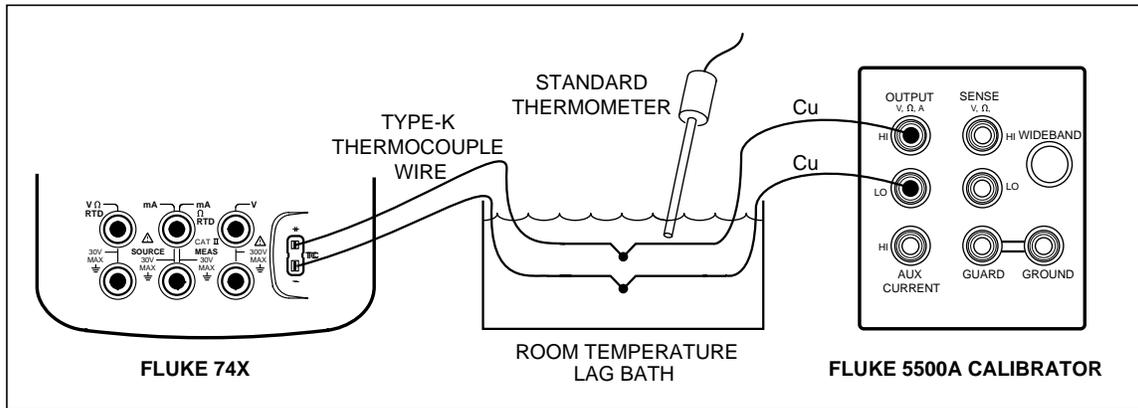

Figure 11. Temperature Measure (TC) Verification Connections
1. Use Type-K thermocouple wire and copper wire to connect the 5500A output to the UUT-TC jack as shown in Figure 11. The Type K-to-Copper junctions should be either welded or made with tight screw terminals and submersed in the lag bath (room temperature). Use the standard thermometer (0.1 °C accuracy) to measure the temperature of the lag bath.
1. Use Type-K thermocouple wire and copper wire to connect the HP3458A to the UUT -TC jack as shown in Figure 11 (the HP3458A is used in place of the 5500A). The type K-to-copper junctions should be either welded or made with tight screw terminals and submersed in the lag bath (room temperature). Use the standard thermometer (0.1% accuracy) to measure the temperature of the lag bath.